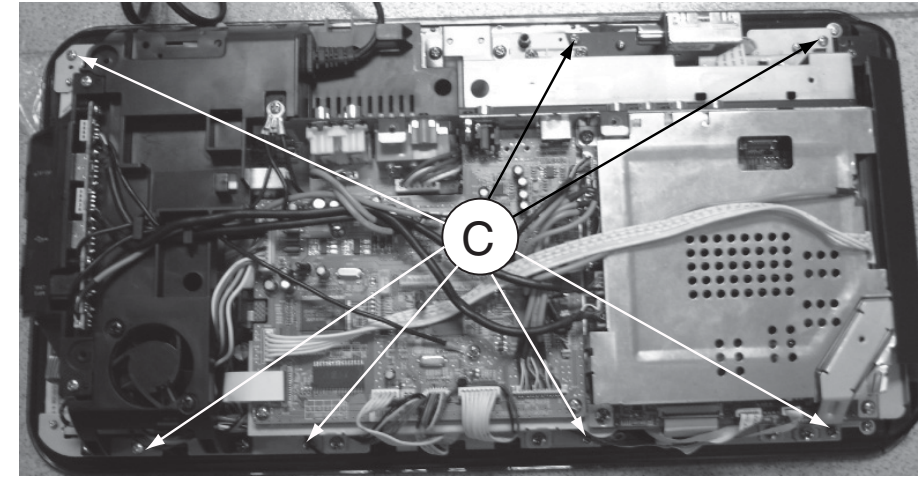

Figure 4
- 1) Loosen 7 screws "C" on the bracket to remove front cabinet as shown in figure 4.